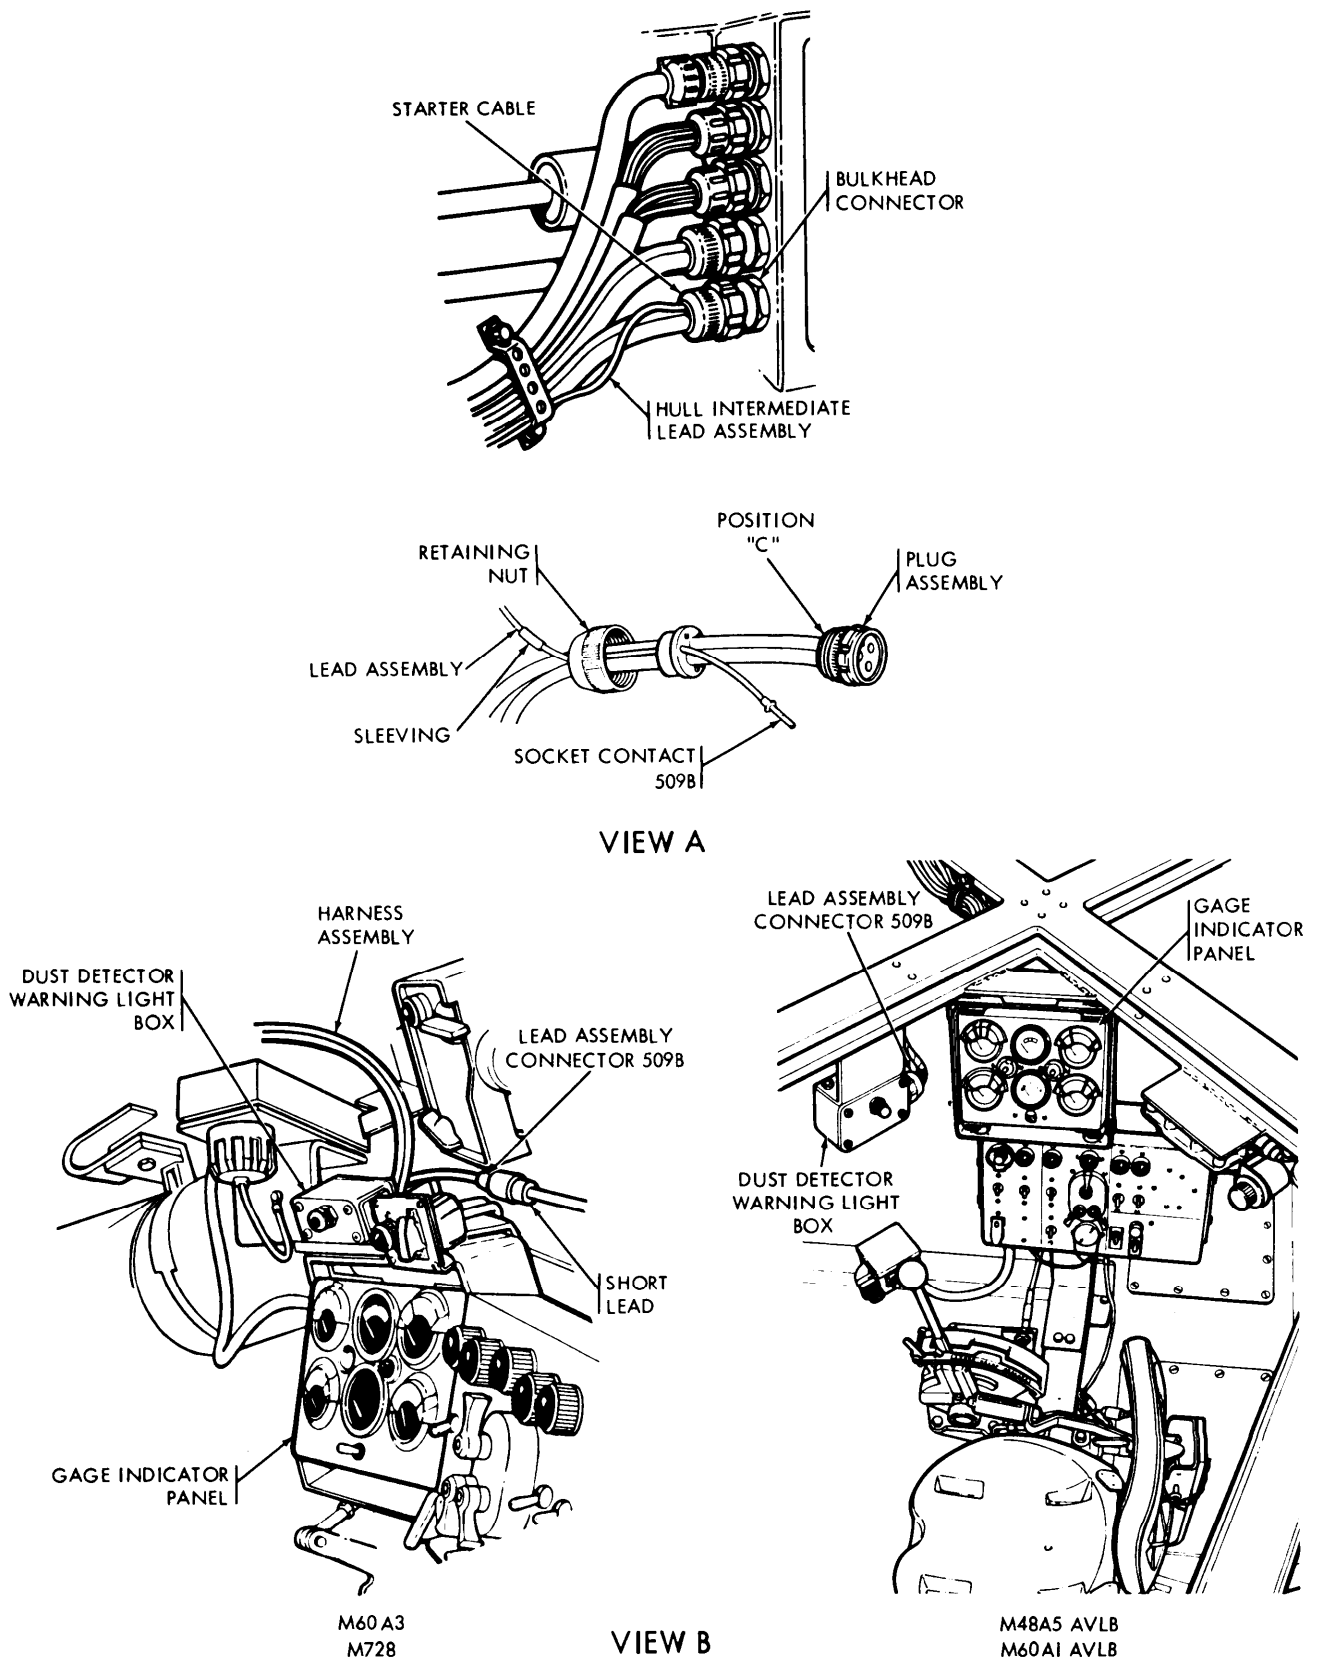

Figure 6-22. Hull intermediate lead assembly replacement.
- e. *Hull Intermediate Lead Assembly Replacement (Fig. 6-22).*
- (1) *Removal.*